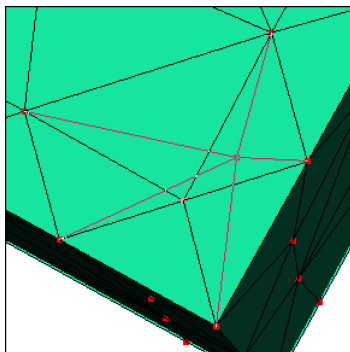

Figure 175: Dragging a node to move it
1. Click on a node and drag it, as shown in Figure 175.